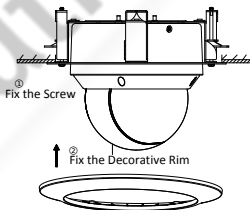

Figure 2-59 Assemble the Decorative Rim
8. Fix the decorative rim with the bubble and the decorative rim will be attached to the in-ceiling bracket automatically, as shown in Figure 2-59.